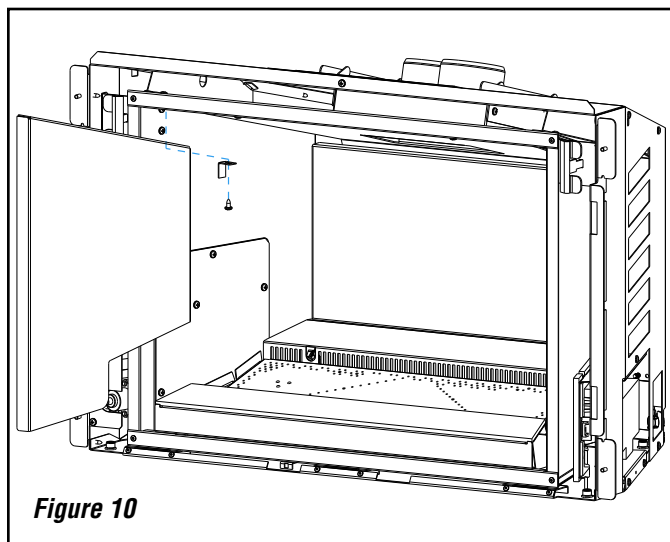

Figure 10
- 5b. Steel and Porcelain panels: using the short 'L' brackets, secure the liner panels by fastening the bracket to the top edge of the Firebox with a #8 x 3/8" Phillips screw provided with this manual (**Figure 10**).